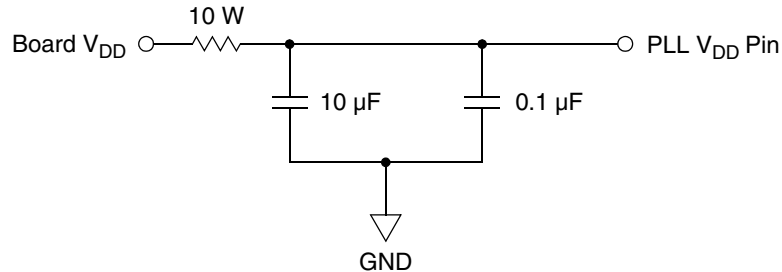

Figure 1. System PLL  $V_{DD}$  Power Filter
- 1  $IV_{DD}$  and  $PLL V_{DD}$  should be at the same voltage.  $PLL V_{DD}$  should have a filtered input. Please see Figure 1 for an example circuit. Note: There are three  $PLL V_{DD}$  inputs. A filter circuit should be used on each  $PLL V_{DD}$  input.
To further enhance noise isolation, an external filter is strongly recommended for PLL analog  $V_{DD}$  pins. The filter shown in Figure 1 should be connected between the board  $V_{DD}$  and the PLL  $V_{DD}$  pins. The resistor and capacitors should be placed as close to the dedicated PLL  $V_{DD}$  pin as possible.